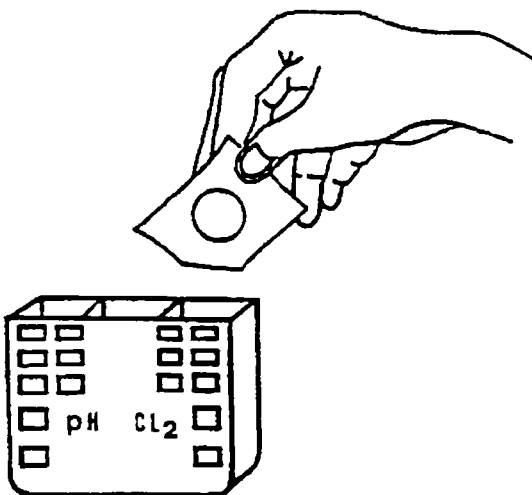

Figure 3. Adding a DPD tablet to a cell
- Tear a foil strip containing DPD No. 1 tablets and allow one tablet to fall into the cell marked CL₂ in the comparator (see Figure 3).